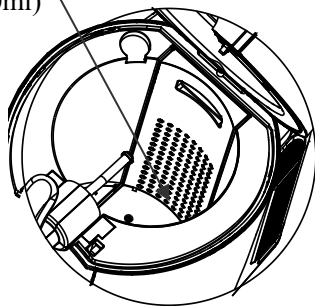

Figure 6
5. Put 800ml water into the cooling cavity or pour the water to the max mark (Show as figure 6) (It can work without water, but it can't display the best performance)